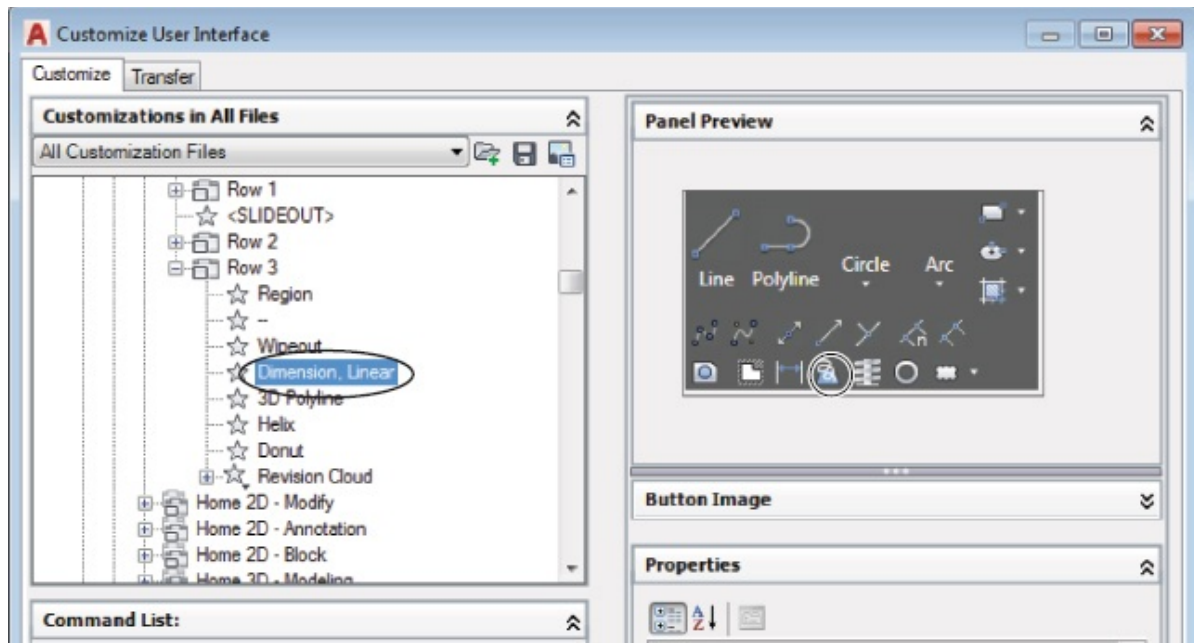

FIGURE 24.7 After positioning the Dimension icon
9. Place the bar just above 3D Polyline, and release the mouse button. Dimension, Linear appears above 3D Polyline in the list (see Figure 24.7), and though it may be difficult to see, the Dimension Linear icon appears in the Panel Preview area.